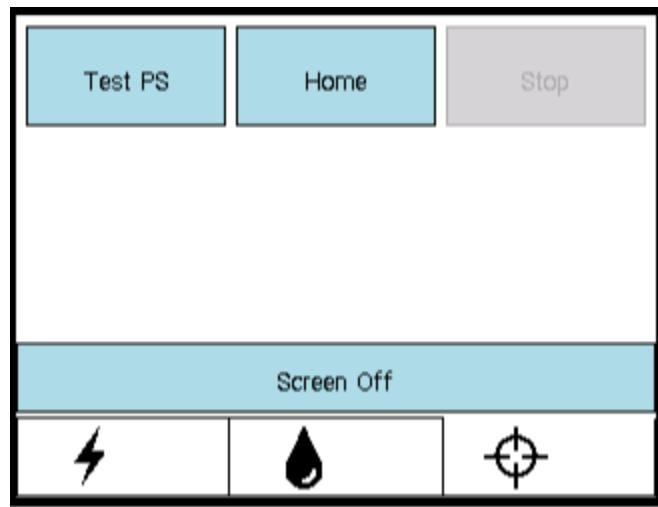
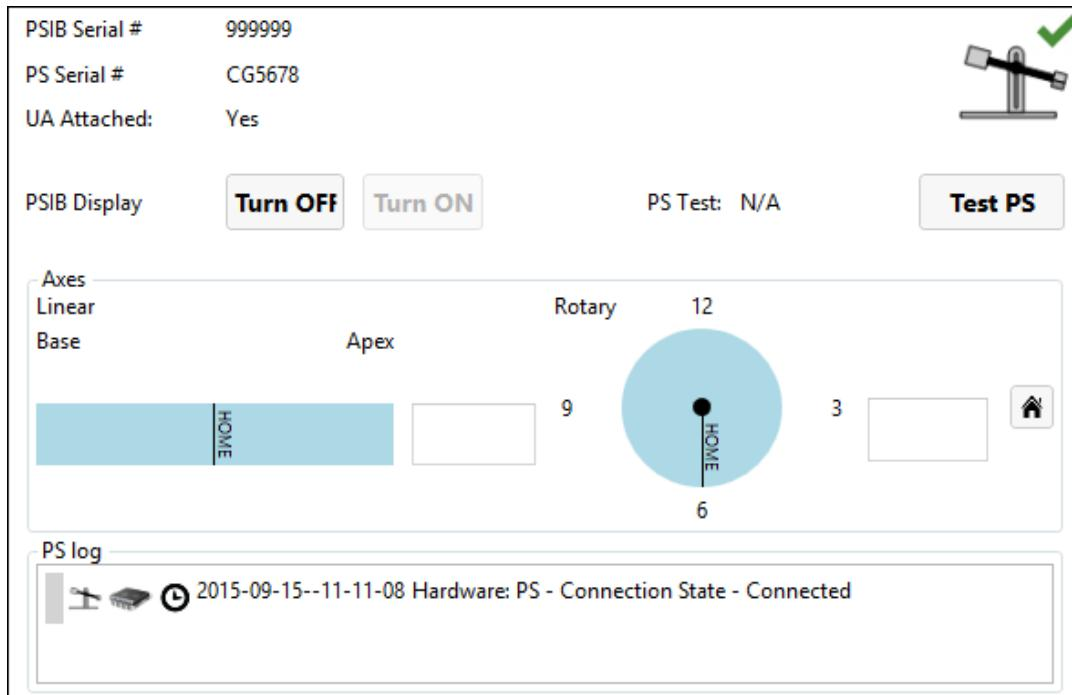

Figure 8: PSIB display - PS tab
Figure 9: PS information box in Setup workspace
- On the PSIB display, select the PS tab  and click **Test PS** (Figure 8). The system will translate the PS forward and backward to test the continuity and functionality of the translation axis as well as home the PS in the translation axis. The system will also rotate the rotational axis clockwise and counter-clockwise to test the continuity and functionality of the rotational axis. (This can also be done from the TDC *Setup* workspace in the PS information box in the bottom-right quadrant Figure 9.) You can move to the next step while the PS test is in progress.